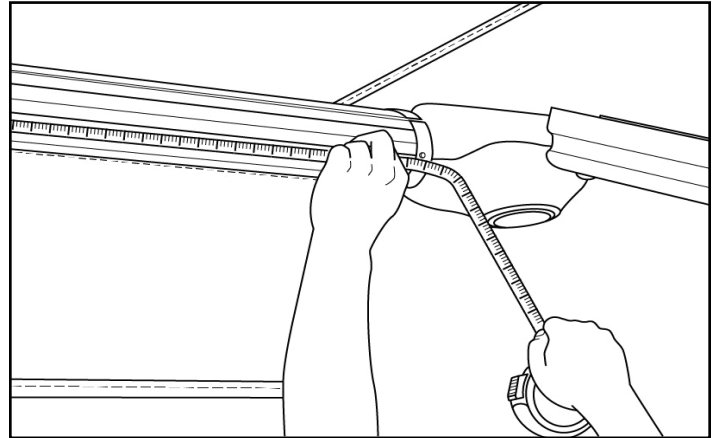

Fig.36
1. Measure the length of the roll tube (Fig.36).